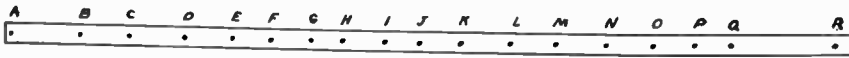

Fig. 2.
A centre line is drawn along each stick (1) and distances laid off (Fig. 2) as follows, A being  $\frac{3}{4}$  in. from the end: